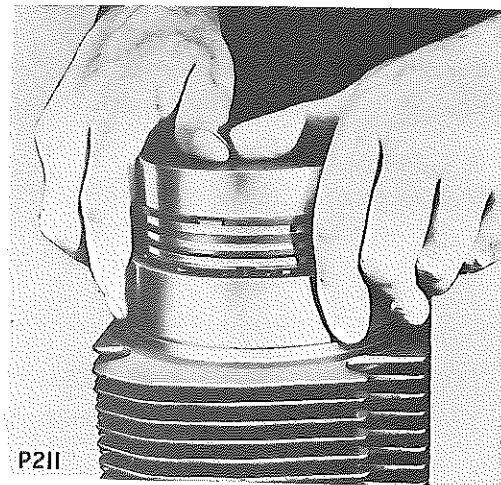

Fig. 12 REPLACING PISTON
3. Place a piston ring taper sleeve or clamp as shown in Fig. 12 around the rings, so tightened that it will allow the piston to be pushed through when it butts against the top of the barrel. The operation should be done with care, otherwise the rings may be broken.